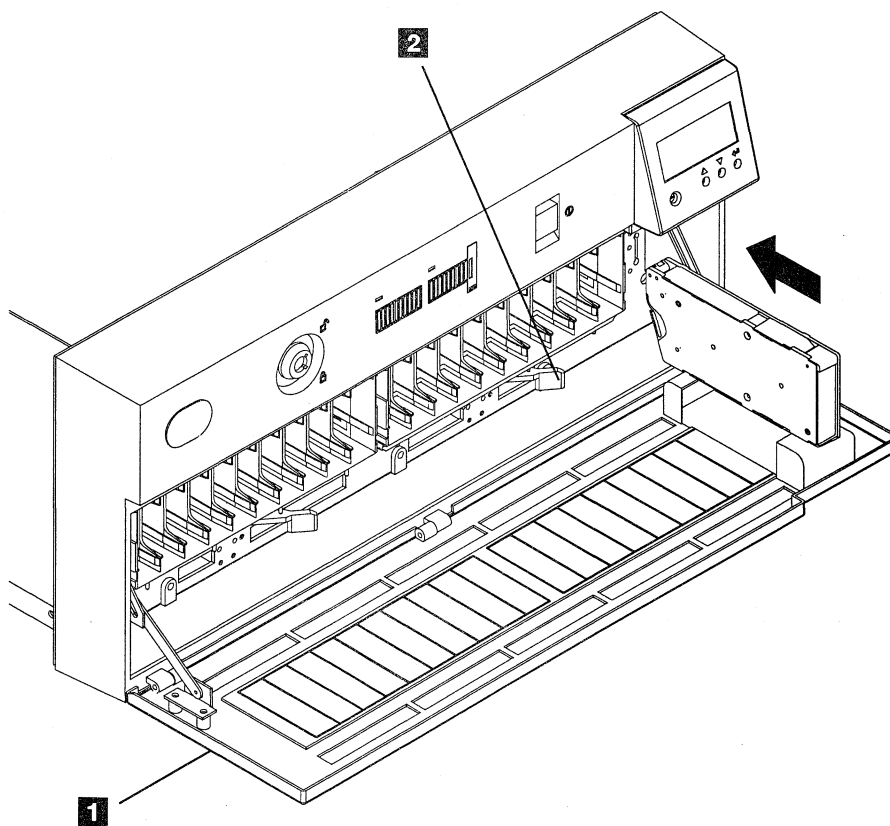

Figure 83. Loading a Cartridge in the Library
4. Insert new cartridges into the magazine in the orientation shown in Figure 83. Be sure to insert the cartridge to the full import position by pushing it gently into the magazine until it comes to a stop and even with the front of the magazine.